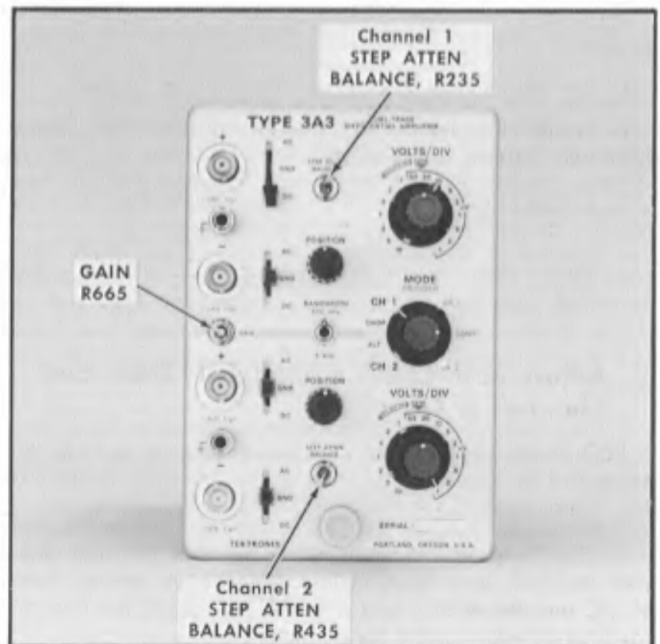

Fig. 5-1. Location of Channel 1 STEP ATTEN BALANCE control R235, Channel 2 STEP ATTEN BALANCE control R435, and GAIN control R665.
- c. ADJUST—STEP ATTEN BALANCE control, R235, (Fig. 5-1) for no trace shift as part a of this step is performed.
- f. ADJUST—GAIN control, R665, (Fig. 5-1) until a channel 1 display amplitude of exactly 5 major divisions is obtained.